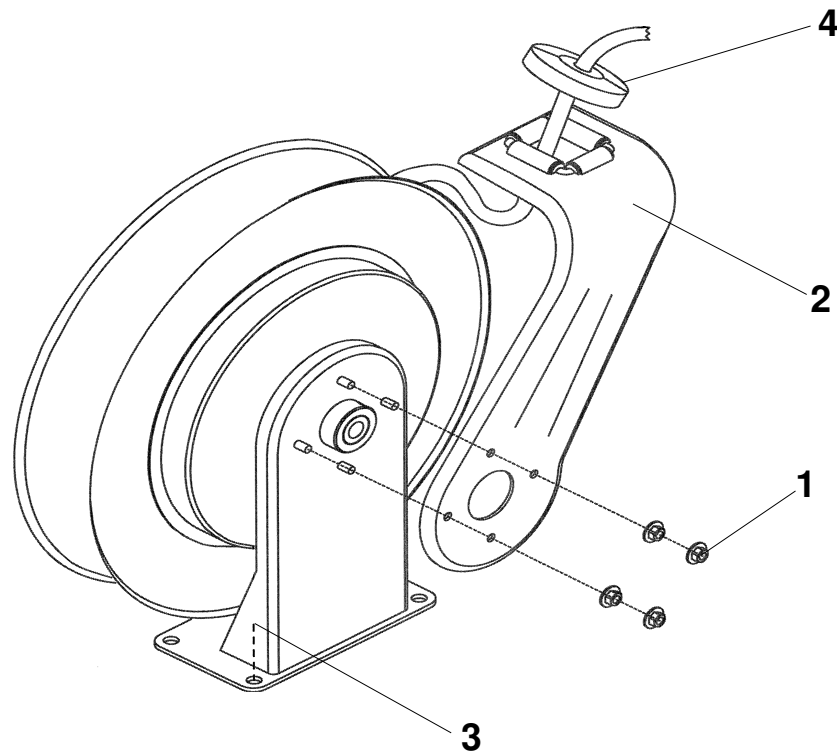

FIG. 2
2. Configure reel for top, side or bottom hose dispensing by removing nuts (item 1, Fig. 2) securing the guide arm bracket (item 2, Fig. 2). Depending on where the reel is to be mounted, position the guide arm bracket to desired location and replace nuts.
3. Position the reel base to floor, wall or ceiling. Secure into place using four (customer supplied) fasteners (item 3, Fig. 2). **CAUTION: Reel is heavy – mount securely! Recommended mounting hardware: 3/8" X 2" (10mm X 50mm) lag screws with washers. If mounting over head, provide safety chain between reel base and mounting surface to prevent accidental reel drop.** For installation on a wood, drywall or stucco surface, mount the reel to a 2" (51 mm) thick piece of lumber that has been fastened into studs. For installation on a brick, cement, cinder block or other hard surface, insert aluminum anchors into the hard mounting surface before mounting the reel.
Adjust hose bumper (item 4, Fig. 2) by loosening clamping screws. Slide bumper into desired position and tighten the screws.